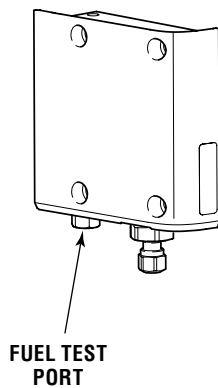

Figure 4-13. Fuel test port.
- Thread in the Pressure Gauge PK0030 and torque to 25 in-lbs ± 3 in-lbs (2.8 Nm ± 0.3 Nm) as shown in figure 4-13.